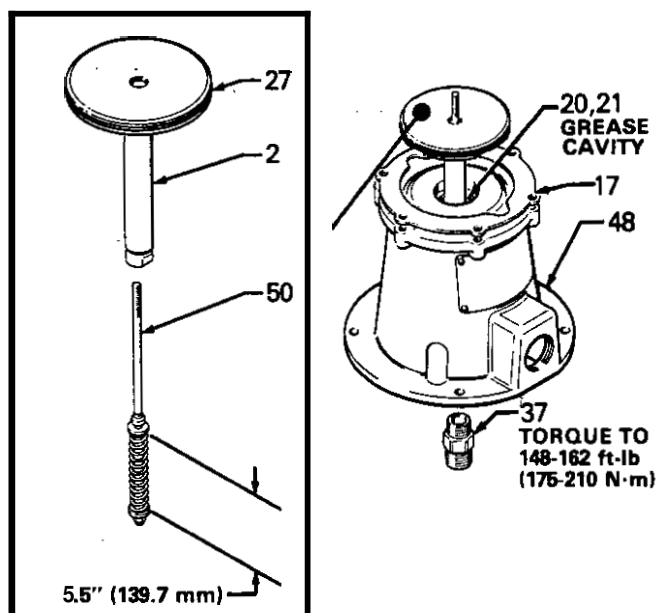

Fig 6-2
3. Pull the piston (2) and trip rod (50) up out of the base (48). Remove the O-ring (27) from the piston. Unscrew the adapter (37) from the piston shaft (2). See Fig 6-2.
NOTE: Be sure the clearance between the shoulders of the trip rod spring guides is EXACTLY 5.5 in. (139.7 mm) whenever you install a new or used trip rod. If the clearance is different, replace the trip rod; do not attempt to adjust it. See Fig 6-2.
2. Grease the trip rod (50) and install it in the piston (2). Screw the adapter (37) into the piston and torque to 148-162 ft-lb (175-210 N·m). See Fig 6-2.
4. Grease the piston (2), O-ring (27*), and cylinder (46). Place the cylinder upside down on a flat surface. Place the O-ring around the piston; the O-ring is larger than the piston groove. Install the piston in the cylinder so the excess of the O-ring fits into one of the notches on the flange of the cylinder. Use your fingers to push the O-ring out of the notch and seat it in the piston groove. Push the piston into the cylinder to hold the O-ring in place.
5. Regrease the inside of the cylinder (46) and the trip rod (50). Be sure the gasket (17) is properly located on the base (48). See Fig 6-2.